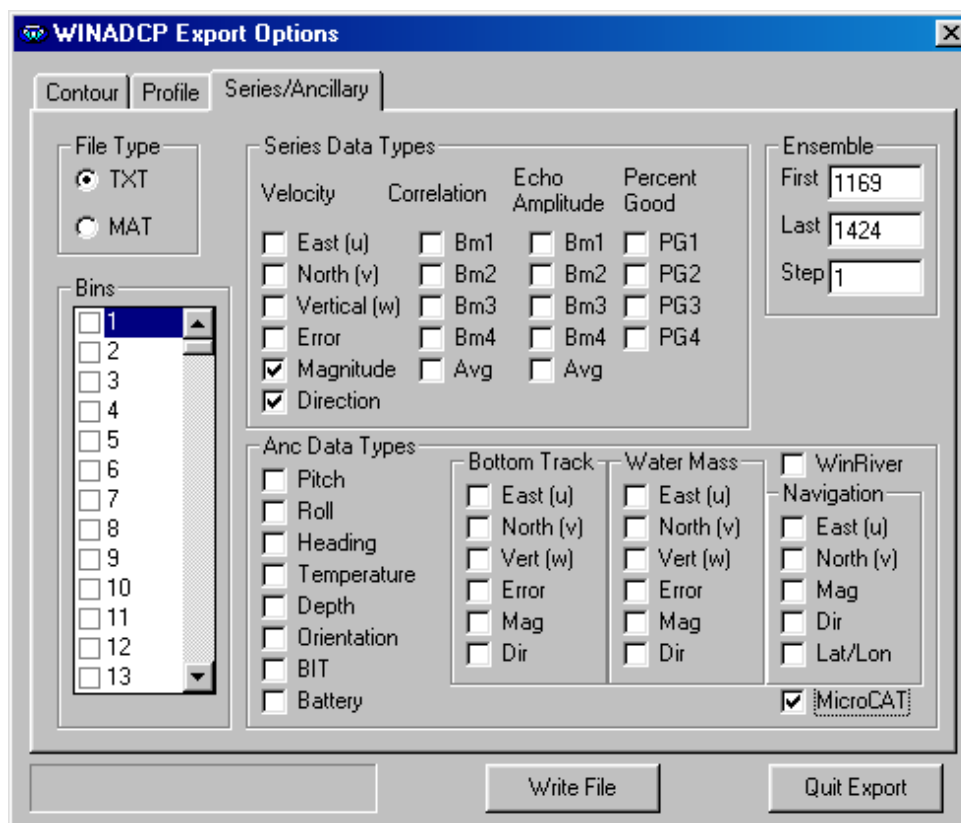

Figure 2. WinADCP Export Options
- f. Check the **MicroCAT** box (see Figure 2, page 5).